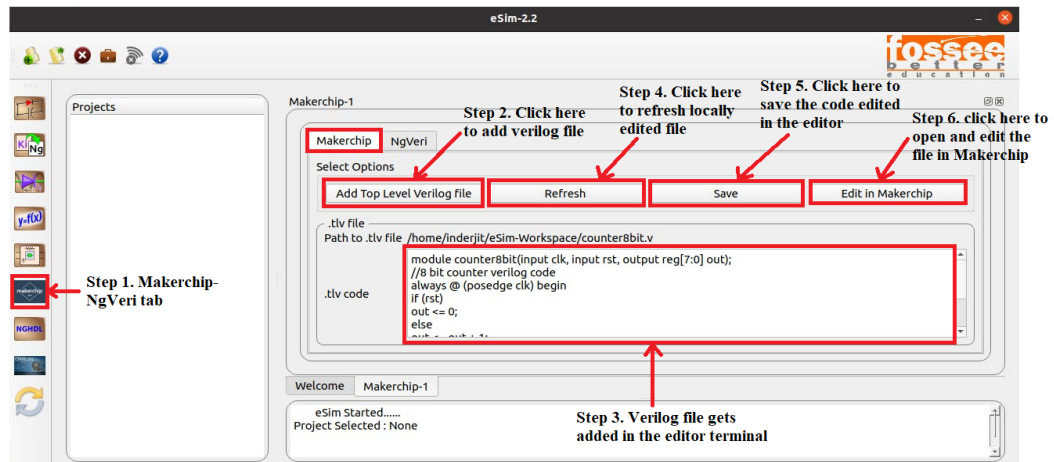
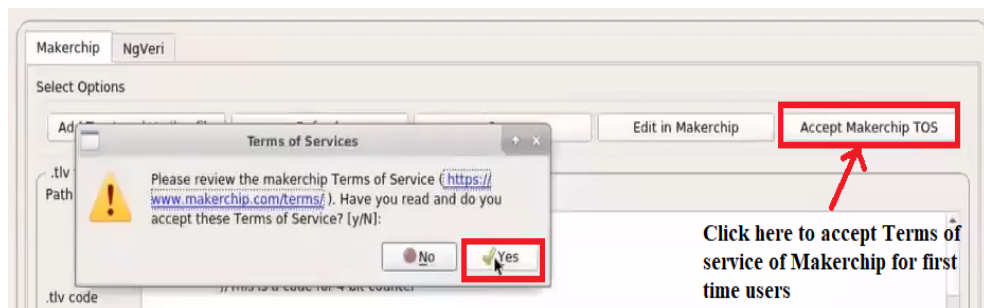

Figure 10.10: Adding verilog file in Makerchip editor
Figure 10.11: Accepting Terms of Service of Makerchip
5. Click on Makerchip-NgVeri button on the left toolbar of eSim window which opens Makerchip interface in eSim as shown in Fig. 10.10.
6. Click on the button shown in Step 2 as shown in Fig. 10.10 to add the verilog file for 8 bit counter. The path to top level verilog file along with the verilog code get added in the Makerchip editor terminal shown in Step 3 of Fig. 10.10
7. User can refresh locally edited verilog file by clicking on the **Refresh** button as shown in Step 4 of Fig. 10.10. If the file is edited using some other editor and also loaded in Makerchip Tab at the same time, the **Refresh** button starts toggling. The user must click on the Refresh button to get the new version of the file in the editor.
8. User can save the verilog code edited in the Makerchip editor terminal by clicking on the **Save** button shown in Step 5 of Fig. 10.10
9. For the first run, the user needs to accept the Term of Service by clicking on **Accept Makerchip TOS** as shown in Fig. 10.11. This button will disappear after rerun of eSim as shown in Fig. 10.10.
1. The verilog code named counter8bit.v is loaded in editor space of Makerchip tab as shown in Fig. 10.10.